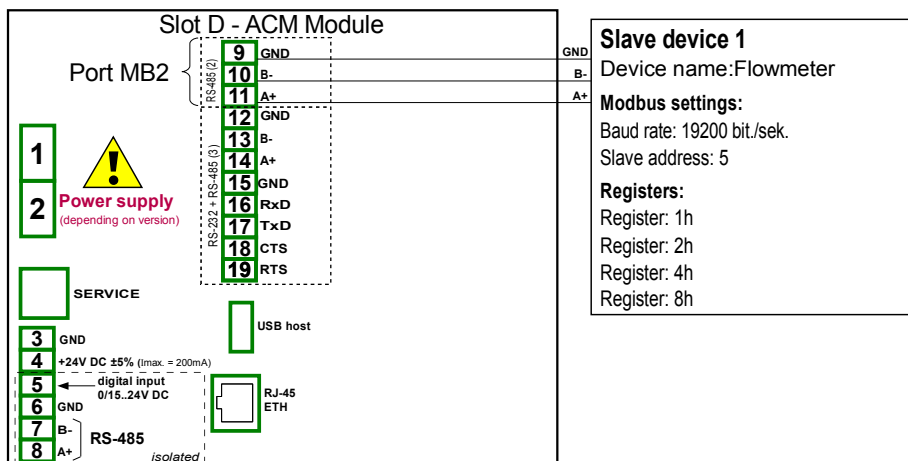

Fig. 7.129. Connection diagram for the Modbus port MB2
First we need to configure the device according to the following recommendations, then connect the device according to **Fig. 7.129**.
- using the arrows in upper right corner choose **Port number: 1 (MB1)** in accordance with **Fig. 7.129**),